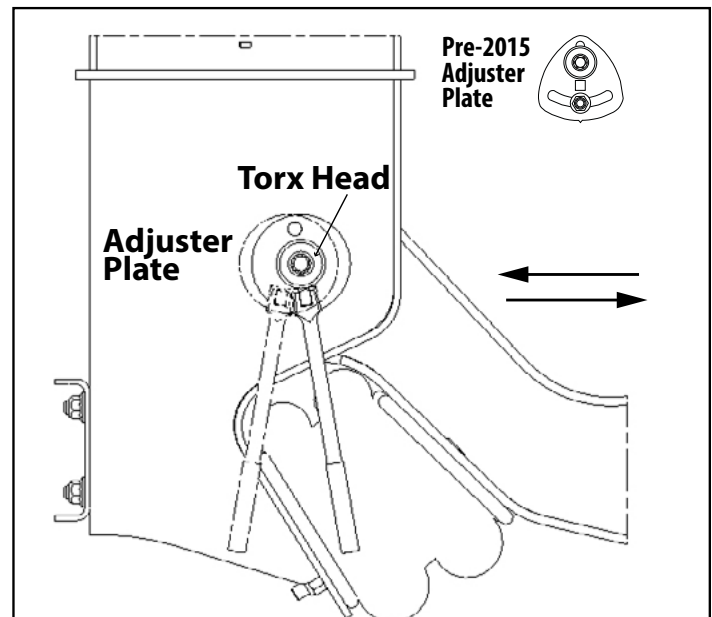

Figure 9.
- Loosen the pivot nut enough for the beam to move within the hanger (Figure 9).
- Locate the adjuster plate at the pivot connection. Insert a 1/2"-shank breaker bar into the square hole of the adjuster plate. Push on the breaker bar to move the beam forward or backward until the axle reaches alignment measurements (Figure 9).